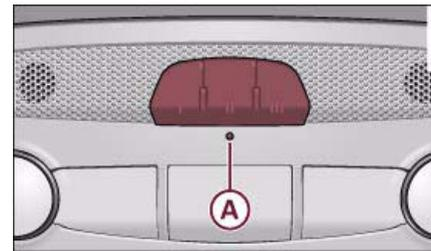

Fig. 80 Operating unit above the interior mirror
2. Press and hold down the two outer buttons of the HomeLink® operating unit ⇒ *page 95*, fig. 80 until the indicator diode (A) ⇒ *page 95*, fig. 80 begins to flash after about 20 seconds. This means that all previously stored data has been deleted.
4. Wait until the diode (A) ⇒ *page 95*, fig. 80 begins to flash. The HomeLink module now remains in training mode for 5 minutes.
- Watch HomeLink diode (A) ⇒ *page 95, fig. 80*. If the diode starts flashing rapidly and turns into a constant light after about 2 seconds, this indicates that the device you wish to operate (e.g. a garage door opener) is equipped with a rolling code.
- Press the programmed HomeLink button ⇒ *page 95, fig. 80*. The device assigned to that button (e.g. garage door) will be activated.
The HomeLink indicator diode ⇒ *page 95, fig. 80* will light up when you press the button. ■
- Press and hold down the two outer buttons until the indicator diode starts to flash ⇒ *page 95*, fig. 80.
- Press and hold down the selected HomeLink® button until the indicator diode ⇒ *page 95*, fig. 80 starts flashing slowly.